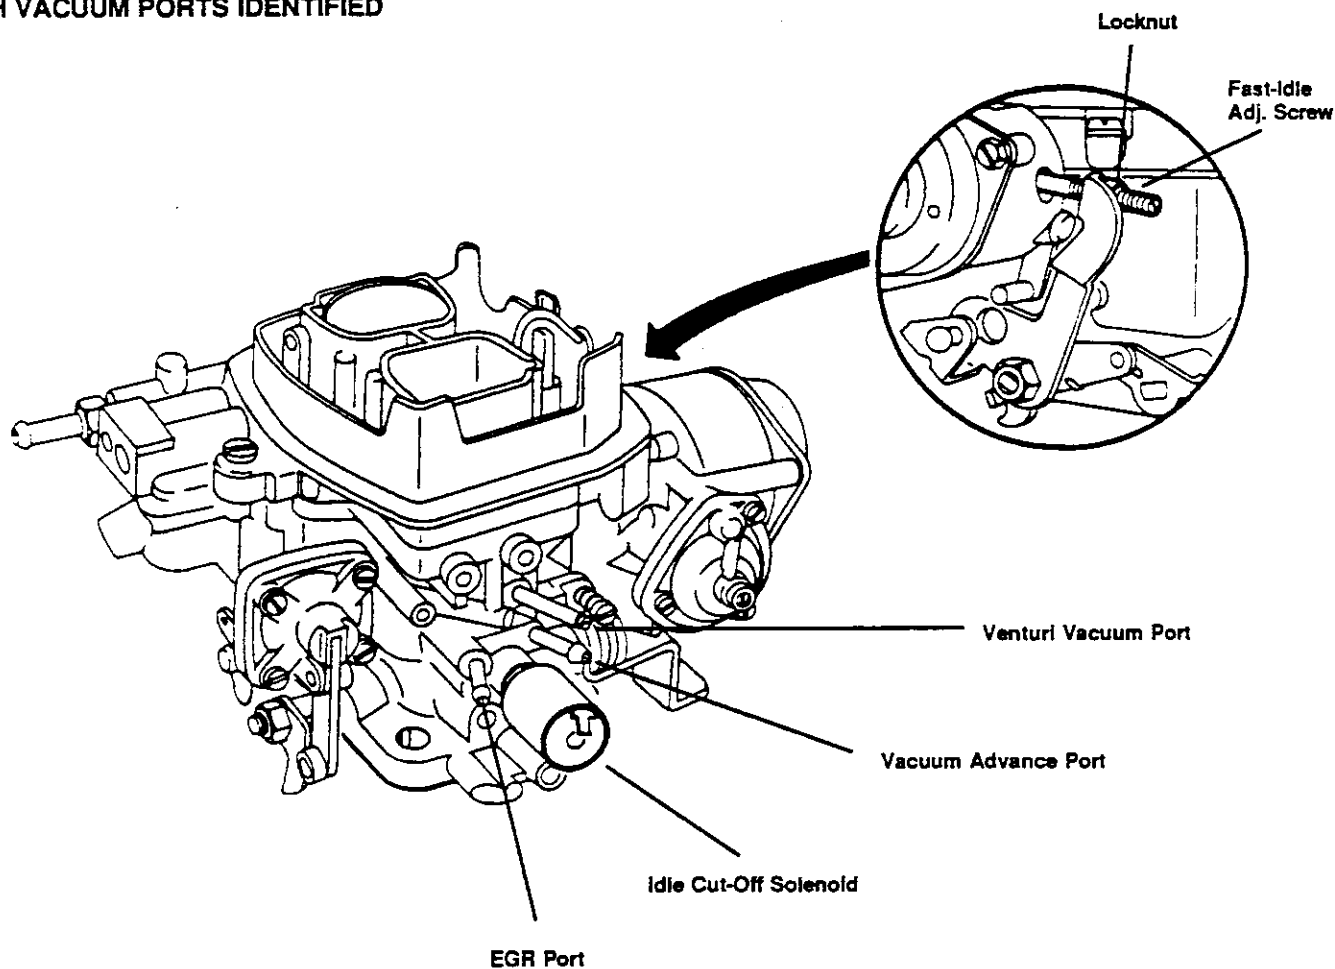
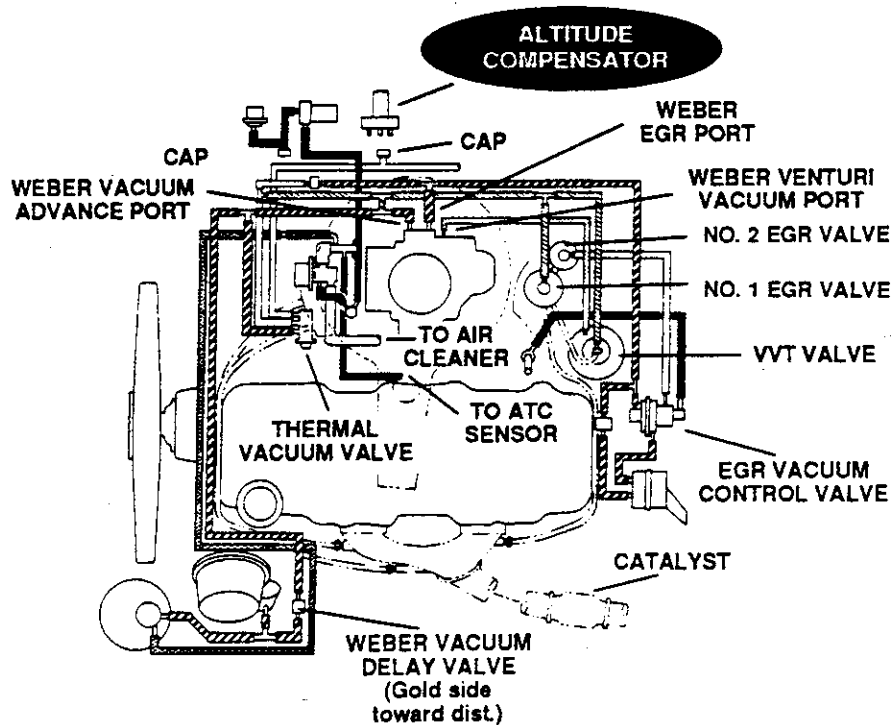

FIG. 4
FIG. 6
18. **ALL VEHICLES:** Cut the stock distributor vacuum advance hose approximately 2-3" from the vacuum advance diaphragm on the distributor. Insert the vacuum delay valve from the kit with the **Gold** side facing the distributor. (FIGS. 4 & 5)
19. **ALL VEHICLES:** Connect the V.V.T, Valve vacuum hose to the venturi vacuum port on the Weber carburetor. (FIGS. 4, 5 & 6)
20. **1980 MODEL 510, '81-'82 MODEL 720:** Connect the EGR control valve vacuum hose to the EGR port on the Weber carburetor. (FIGS 4 & 5)
21. **1981 MODEL 510 ONLY:** Cut the hose for the EGR vacuum control valve and install one of the vacuum tees from the kit. Cut a 2" piece of vacuum hose (supplied in kit) and install it on the Weber Carburetor EGR port. Connect the remaining end of the hose to the tee. (FIGS. 4 & 6)
22. **1980 MODEL 510, '81-'82 MODEL 720:** Connect the distributor vacuum advance hose to the vacuum advance port on the Weber Carburetor. (FIGS. 4 & 5)
23. **1981 MODEL 510 ONLY:** Using the tees supplied in the kit tee together the distributor vacuum advance hose and the No. 1 EGR valve hose as shown in FIG. 6. Connect the remaining end of the distributor vacuum advance hose to the vacuum advance port on the Weber carburetor. (figs. 4 & 6)